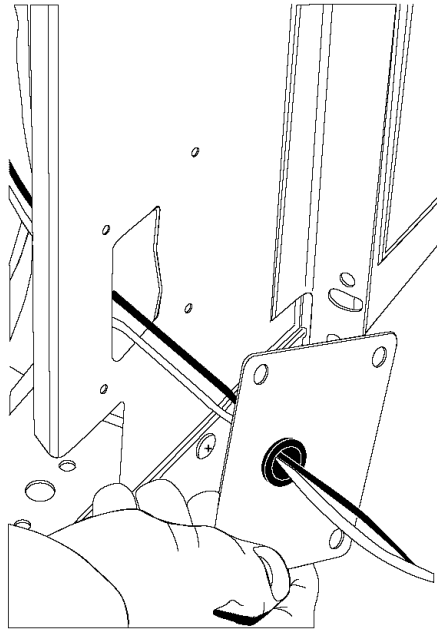

Fig. 11 — Wiring and Low-Voltage Opening Location
Step 12 — Route 24 vac field-supplied wires into the control box, through the bushing of the access cover. See Fig. 11.